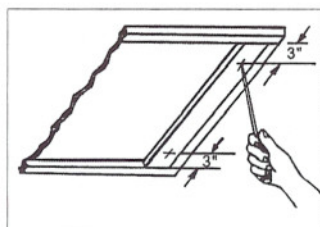

Fig.6
- b. Start a 1 1/4 " long wood screw (purchased locally) about 3" from each end of the 1"x2" wood strips (Fig.6)